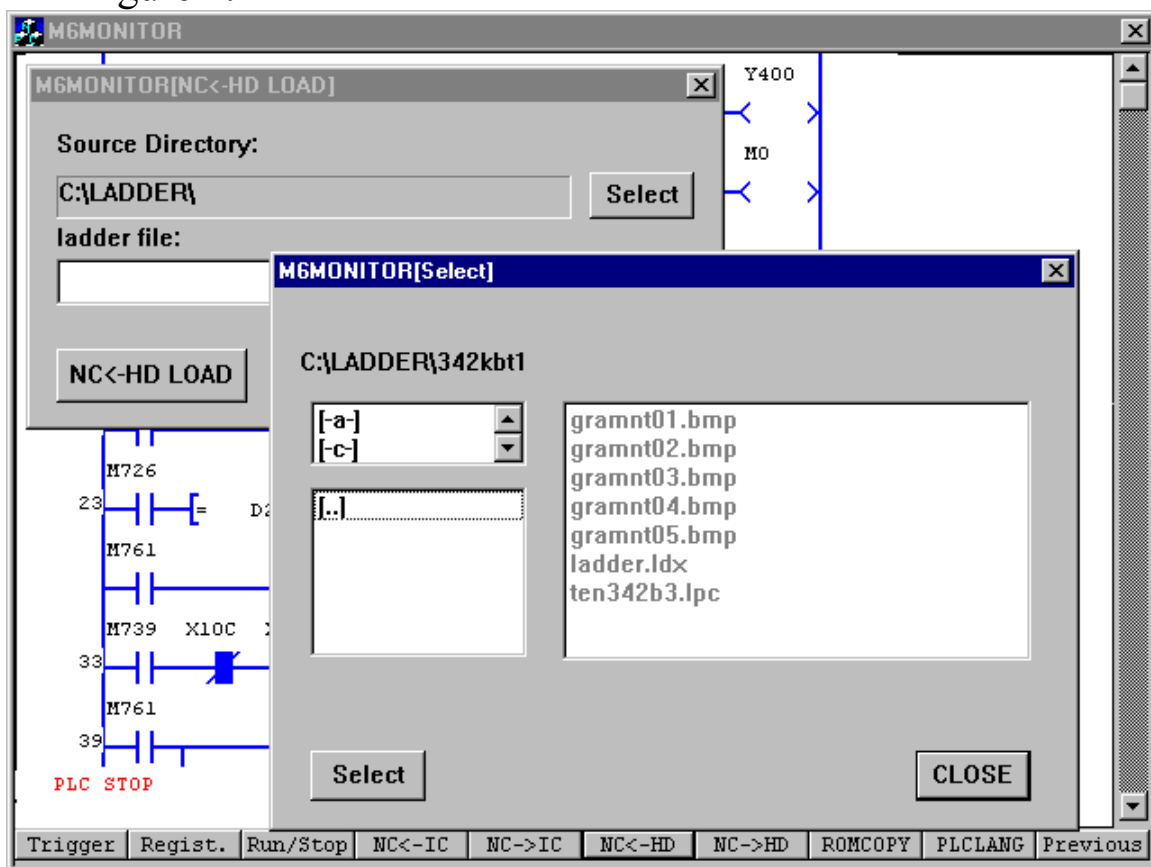

figure 2.
- 13) Select 342KBT1 and press "SELECT" when done. See figure 2.